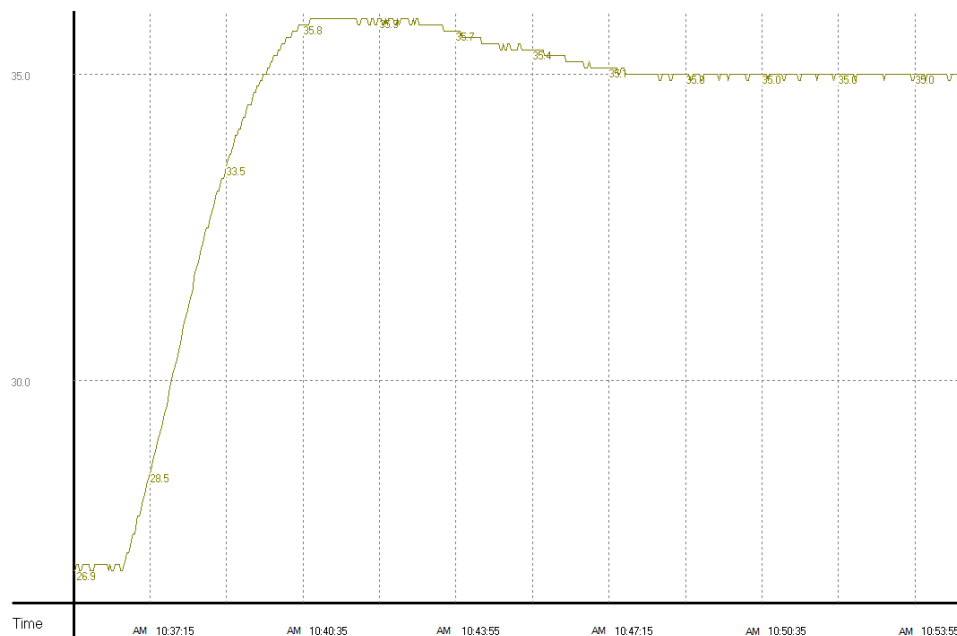

Figure 15
- ◆ Use the PID temperature control parameters (K_P , K_I , and K_D) calculated, and enable M0 and M1 again. The experimental result is shown in Figure 15.
The experimental result of using the parameters (K_P , K_I , and K_D) after the adjustment for temperature control is shown in Figure 15.